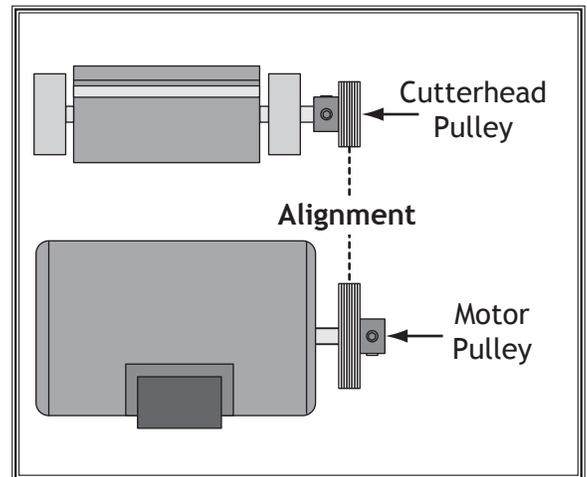

Figure 63. Proper pulley alignment.
6. Tighten set screws, replace belt, and repeat **Step 3** to verify proper pulley alignment. Pulleys should be aligned, as shown in **Figure 63**, when belt is properly tensioned.